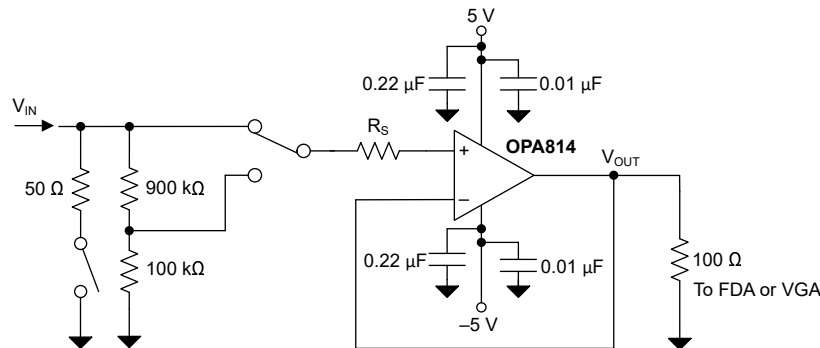

Figure 8-4. High-Input-Impedance, 180-MHz, Digitizer Front-End Amplifier
- Optimizing Overshoot:** The OPA814 features an internal slew-boost circuit to deliver fast rise-time in applications that require high slew rates, such as when configured as a transimpedance amplifier. For applications where overshoot must be limited, limit the input slew rates by introducing a series resistance ( $R_S$ ); see also Figure 8-4. Resistor  $R_S$  forms a low-pass filter with an input capacitance of approximately 2.5 pF at the noninverting pin of the OPA814, thus limiting the input slew rate to the amplifier. Figure 8-5 shows how limiting the input slew rate to the amplifier results in good overshoot performance. Figure 8-6 shows how this configuration achieves a small-signal and large-signal bandwidth of 180 MHz.